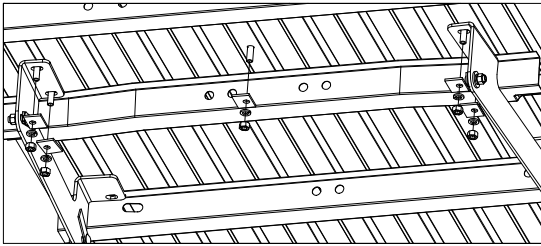

Figure D2: View under bed from rear of truck. (Frame not shown.)
2. **Install hardware on rear mounting rail.** Under the bed install an offset square washer, 1/2" lock washer, and 1/2" finish nut on each of the carriage bolts, see Figure D2. Place the U-shaped spacers, see notice below "INSTALL REAR MOUNTING RAIL". Hand tighten each nut.